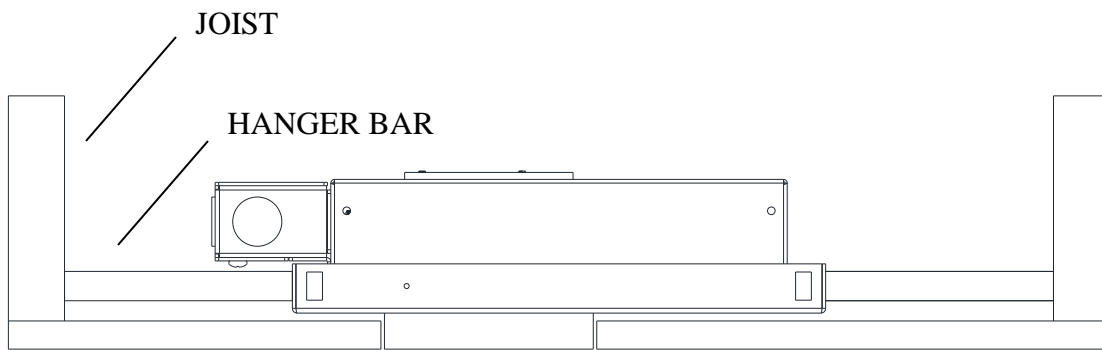

FIG 1
1. Securely mount the fixture housings to the building structure so that the bottom lip of the housing is even with the bottom surface of the joists or other supporting structures. **(FIG 1)**